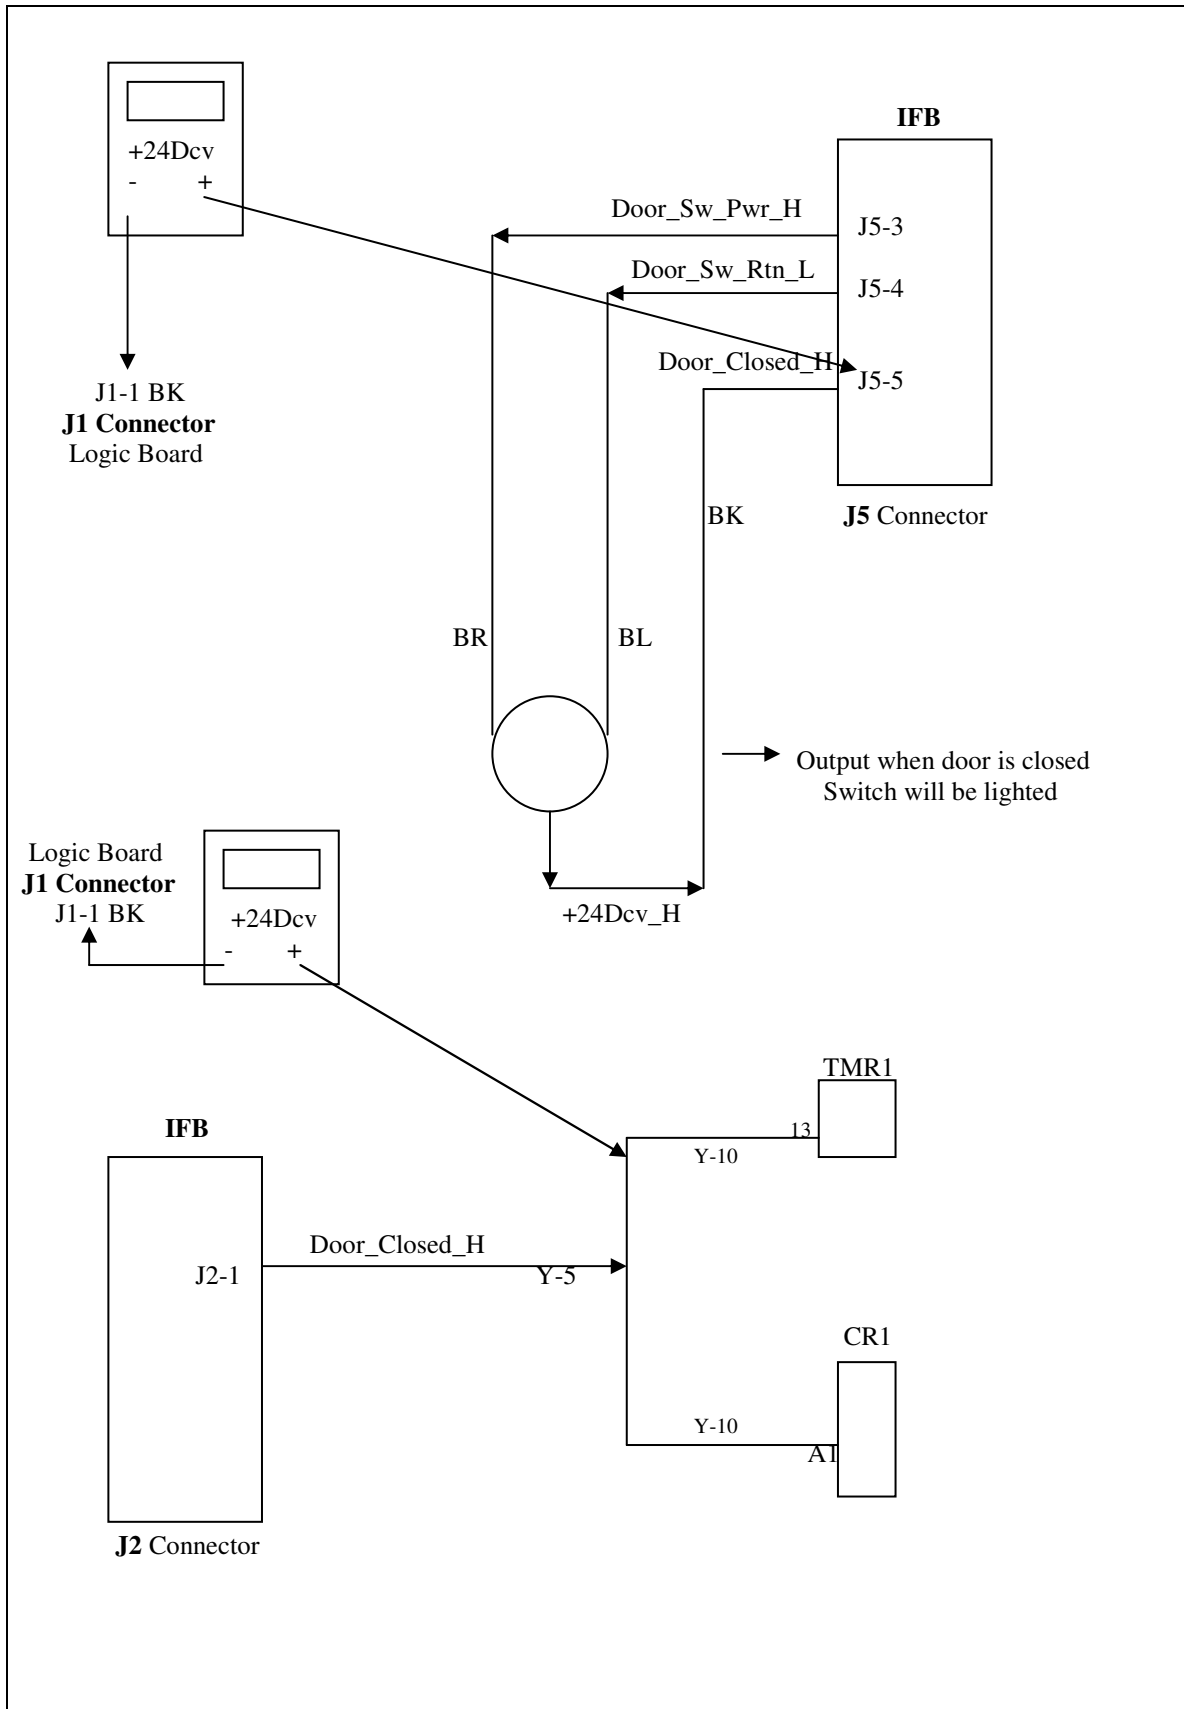

FIGURE 7
1. Verify that the convection motor is running with the door fully closed. If not see door switch troubleshooting flow chart (FIGURE 7).
1. Verify that the convection motor is running with the door closed. If not see door switch troubleshooting flow chart (FIGURE 7).
6. At this point check for +24Vdc_H output from the IFB connector **J5** from (J5-2) to (J5-5). If the voltage is present and the door switch is closed now look for an LED indicator at the IFB relay board CR2 relay (D21). See door switch troubleshooting flow chart (FIGURE 7).